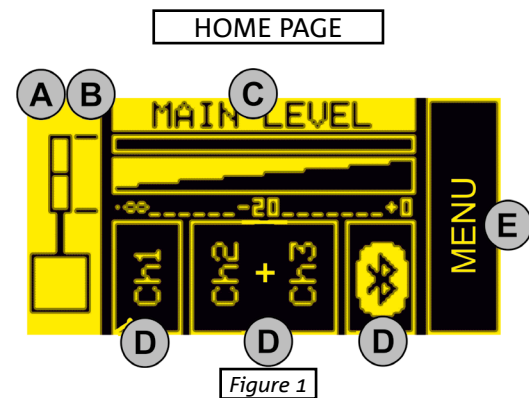

Figure 1
You can perform the following basic operations from the HOME page (figure 1):
A. use [5] to select the left box (figure 1) and highlight it. Confirm and turn to select the appropriate configuration. You can set the ES1203 system as:
- DOUBLE COLUMN STEREO MASTER LEFT (ML)
- DOUBLE COLUMN STEREO SLAVE LEFT (SL)
- DOUBLE COLUMN STEREO MASTER RIGHT (MR)
- DOUBLE COLUMN STEREO SLAVE RIGHT (SR)